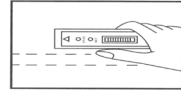

Fig.7
- 3.2.9 To locate horizontal battens or studs, place the unit on the wall as shown in Fig.7 and use the method outlined above.